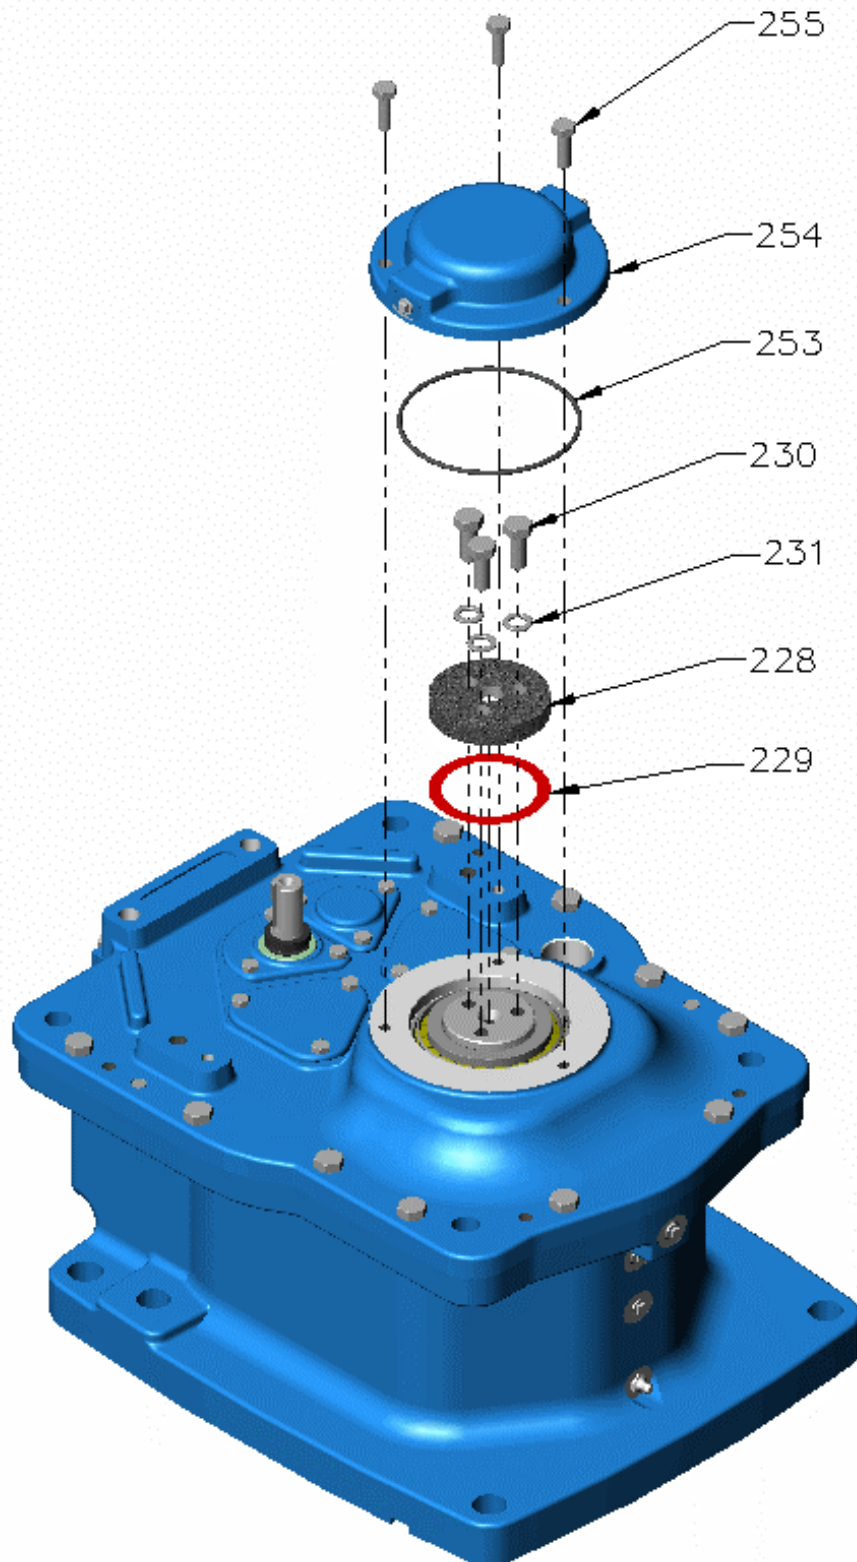

Figure 20 – Output Cap
- T. Output shaft shim selection (refer Figure 20).
- (1) Make sure any fixture or arrangement to prevent the output shaft **[244]** from rotating is removed before shimming.
- (2) Install thrust washer **[228]**, bolts **[230]**. Torque-tighten bolts **[230]** to value given in Table 1.
- (3) Use a Dial Test Indicator (DTI) to measure end float of output shaft.
- U. At output shaft, install following items (refer Figure 20):